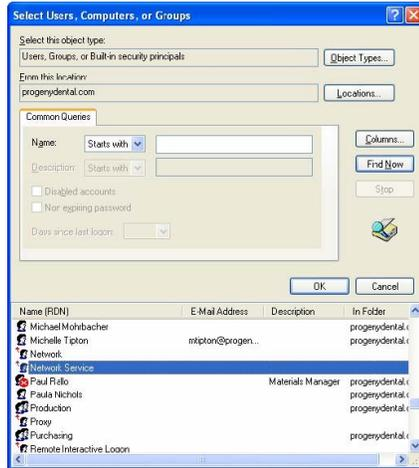

Figure 71
9. In the Select Users, Computers, or Groups box, click Find Now (see Figure 71 on page 46).